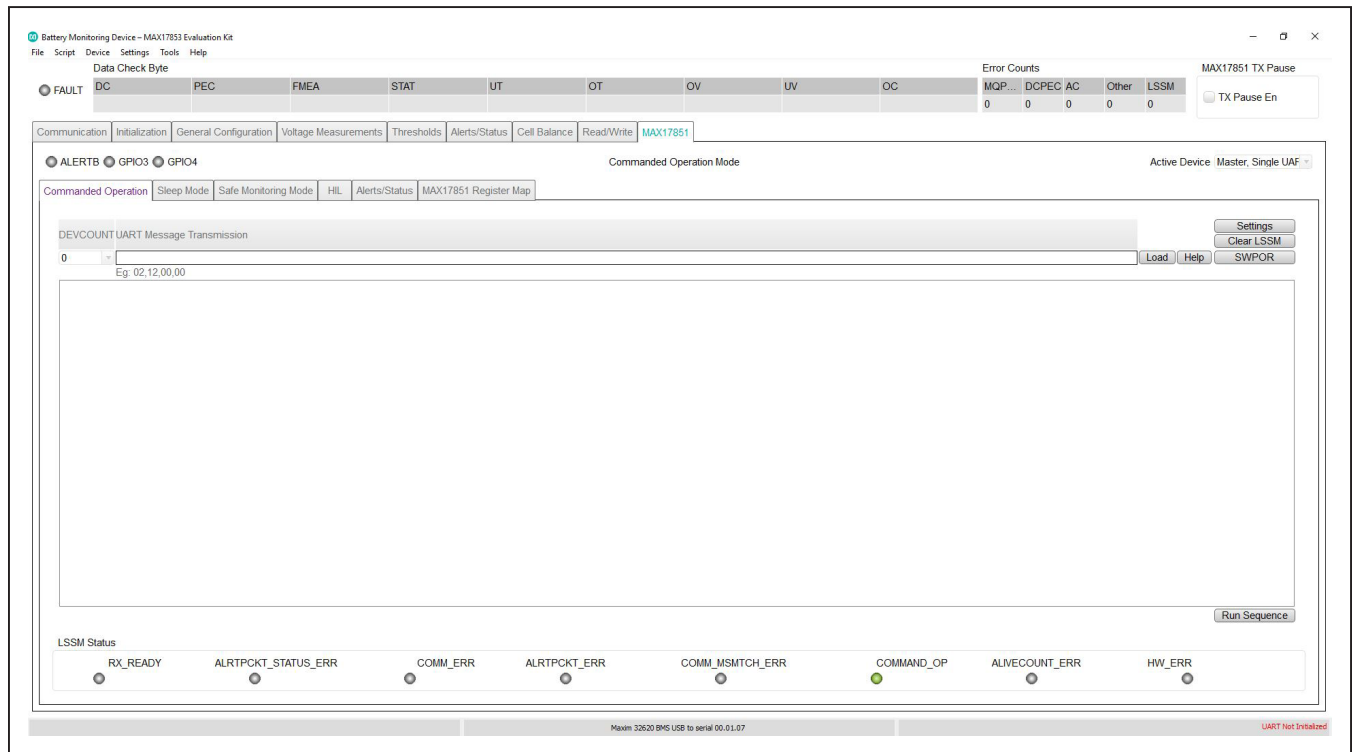

Figure 26. Commanded Operation tab
- 4) Select the **MAX17851** tab (Figure 26) and verify that the current mode is **Commanded Operation Mode**.
- 10) Select the **MAX17851** tab (Figure 26) and verify that the current mode is **Commanded Operation Mode**.
The **MAX17851** tab (Figure 26) provides direct access to the registers of the MAX17851. The sub-tabs in the **MAX17851** tab (see Figure 26) offer powerful tools to configure and monitor the current state of the MAX17851. The **Commanded Operation** sub-tab (see Figure 26) is utilized to send UART commands to the daisy chain.